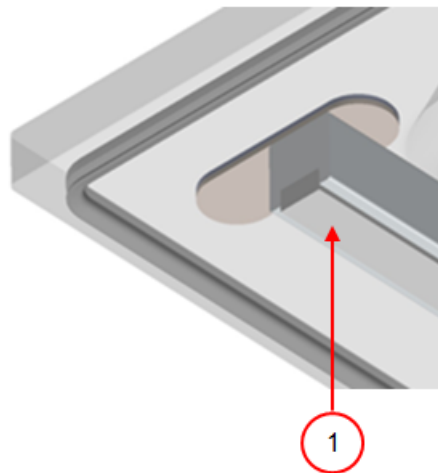

Figure 18: Replacing the Silicone Rubber of the Silicone Holders
1. Pull the old silicone rubber from the holder, see *Figure 18: Replacing the Silicone Rubber of the Silicone Holders* on page 62.